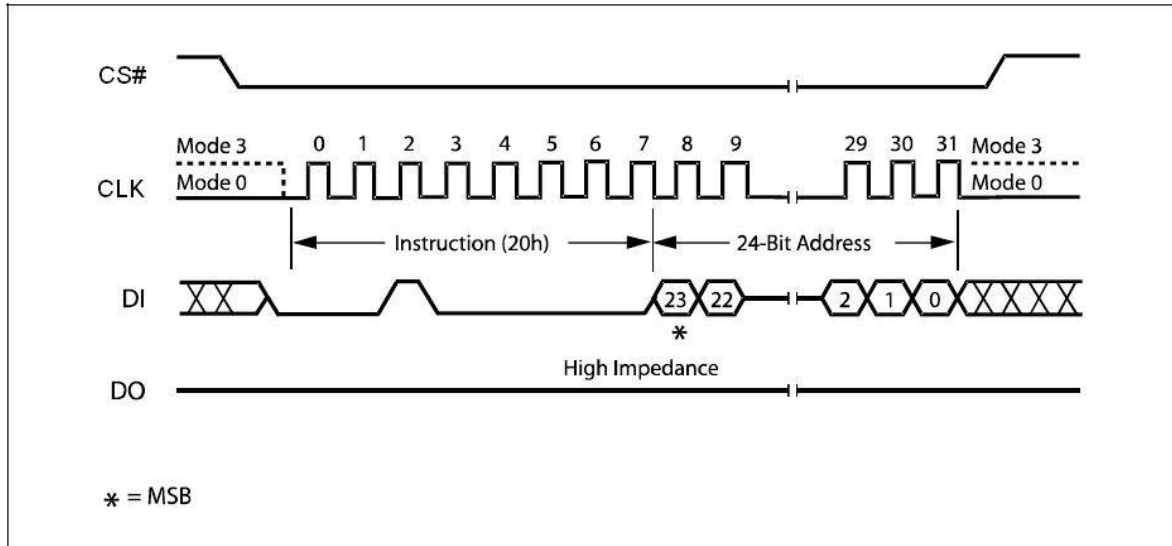

Figure 20. Sector Erase Instruction Sequence Diagram
The instruction sequence is shown in Figure 20. Chip Select (CS#) must be driven High after the eighth bit of the last address byte has been latched in, otherwise the Sector Erase (SE) instruction is not executed. As soon as Chip Select (CS#) is driven High, the self-timed Sector Erase cycle (whose duration is  $t_{SE}$ ) is initiated. While the Sector Erase cycle is in progress, the Status Register may be read to check the value of the Write In Progress (WIP) bit. The Write In Progress (WIP) bit is 1 during the